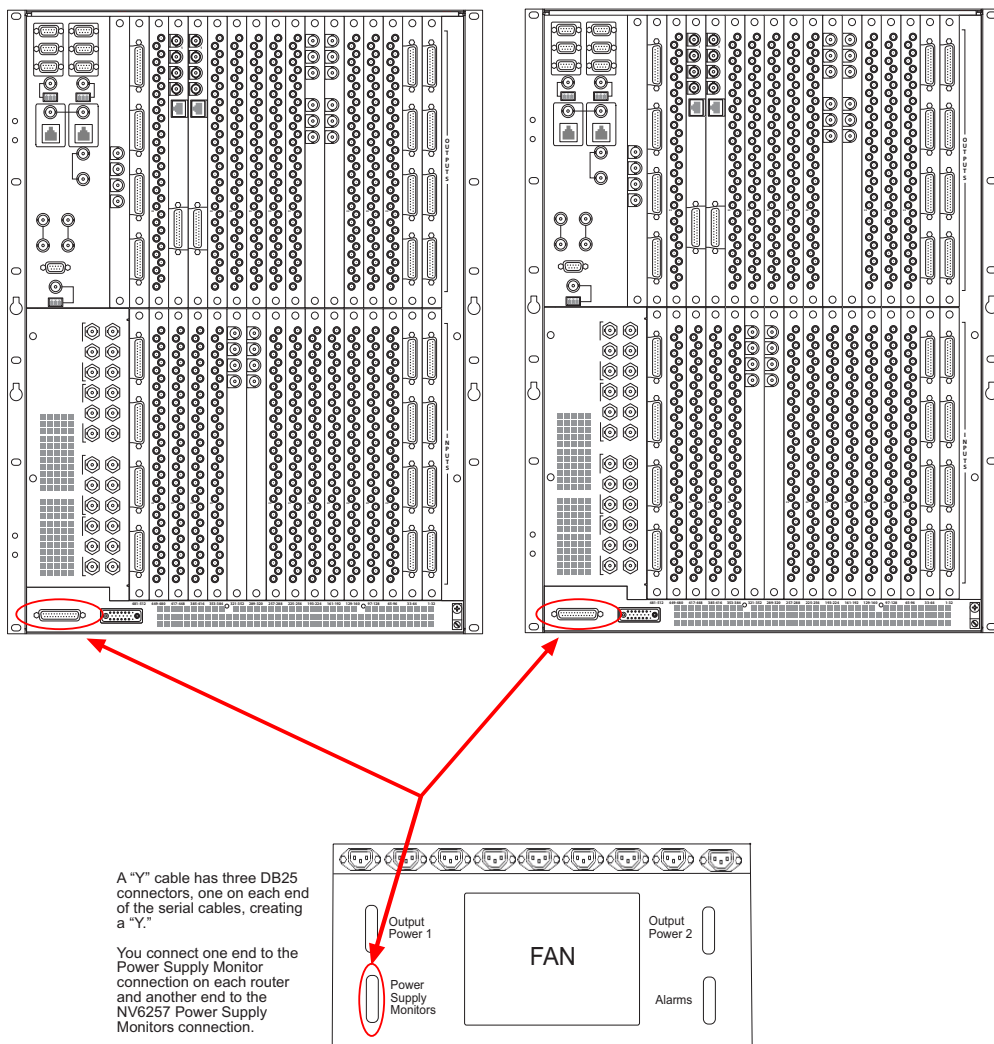

Figure 2-5. "Y" Cable Connecting Two Routers to a Single NV6257
- 8 Facing the rear of the **NV6257**, connect the "Y" cable to 'Power Supply Monitors', as shown in Figure 2-5.
- 9 Facing the rear of the **first router** (Router 1), connect one of the two remaining monitor "Y" cable connectors to 'POWER SUPPLY MONITORS', as shown in Figure 2-5.
- 10 Facing the rear of the **second router** (Router 2), connect the remaining monitor “Y” cable connector to ‘POWER SUPPLY MONITORS’, as shown in Figure 2-5 on page 39.